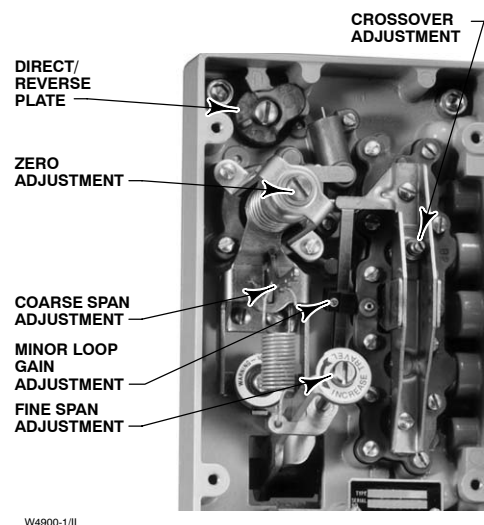

Figure 4. Adjustments for 3610J and 3620J Series Positioners
- Easy Positioner Adjustments**—With the cover removed, zero, span, and cross-over adjustments, shown in figure 4, are easily accessible and can be made with a screwdriver.